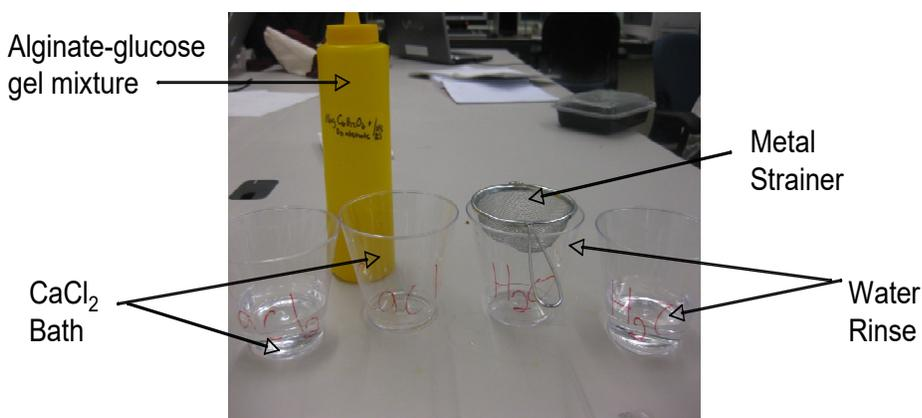

Figure 1. Student Workstation for Microcapsule formation
- Your lab station will be equipped with the materials you will need to carry out this investigation (refer to Figure 1)